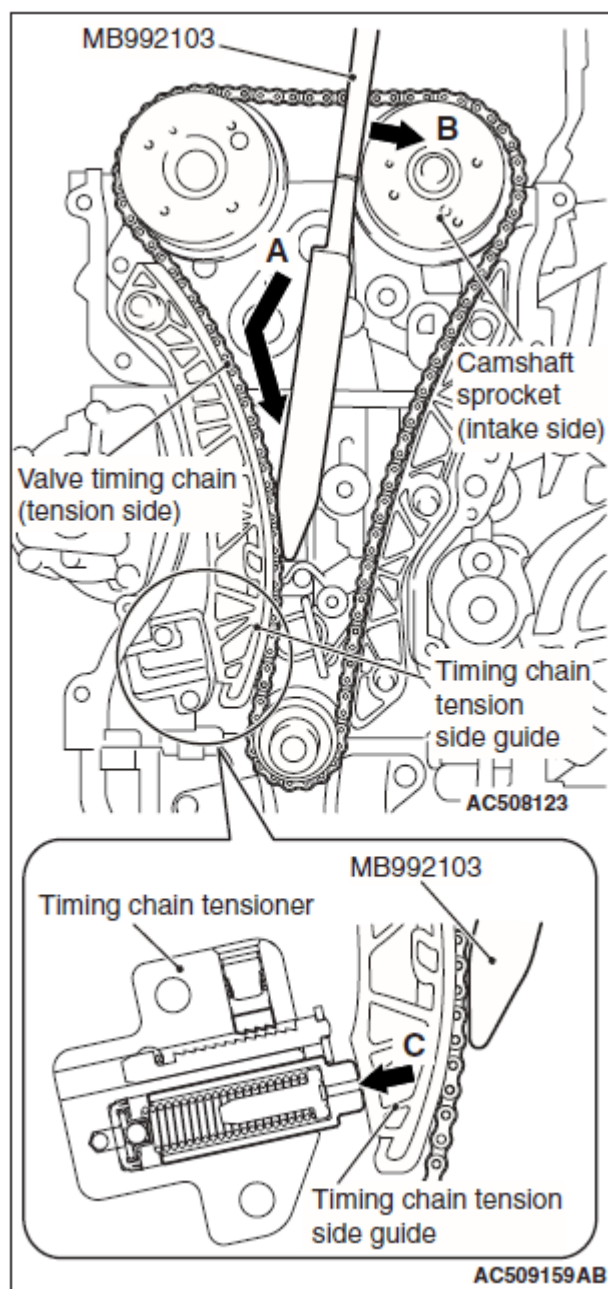

Fig. 32: Removing Flat-Tipped Precision Screwdriver Unlocking Timing Chain Tensioner
2. With the timing chain tensioner unlocked, insert special tool MB992103 inside the timing chain case assembly along the tension side of the timing chain until the insertion guide line aligns with the upper surface of the timing chain case assembly (**Fig. 32**.)
NOTE: With the timing chain tensioner unlocked, insert the special tool MB992103 along the tension side of the timing chain, according to the special tool MB992103 top shape. The special tool MB992103 can be inserted smoothly to the position where the special tool MB992103 insertion guide line aligns with the timing chain case assembly top surface (**Fig. 32**), and the spread timing chain tension side guide can be held (**Fig. 32**.)